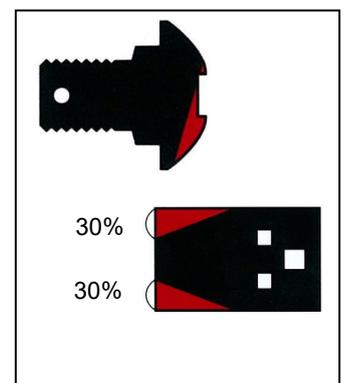

Figure 31
- When the Blade Set Bolt is worn on its head(1, Figure 31), it can cause serious accident with the blade thrown away. Replace the Blade Set Bolt immediately when the dent disappeared. Also, Replace(or reverse) the blade when it is worn up to 30% (Figure 31).